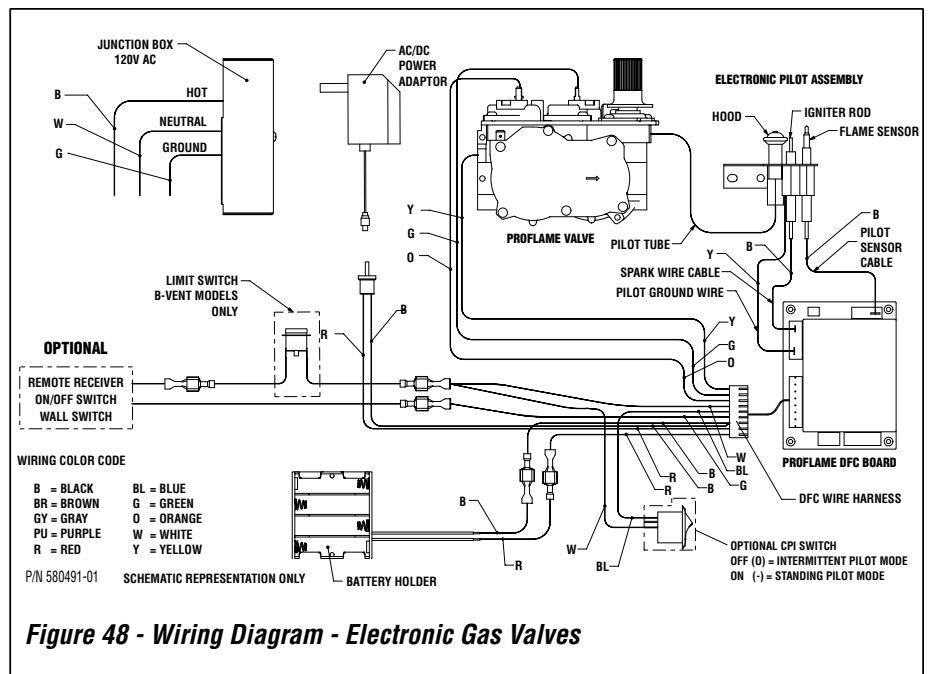

Figure 48 - Wiring Diagram - Electronic Gas Valves
Ground supply lead must be connected to the wire attached to the green ground screw located on the outlet box. See Figure 48. Failure to do so will result in a potential safety hazard. The appliance must be electrically grounded in accordance with local codes or, in the absence of local codes, the National Electrical Code, ANSI/NFPA 70—latest edition., or the Canadian Electrical Code, CAN/CSA C22.1—latest edition.
B. Electronic Wiring (Figure 48)
7. If an optional control is to be used, wire it in the low voltage circuit as shown in **Figure 48**.